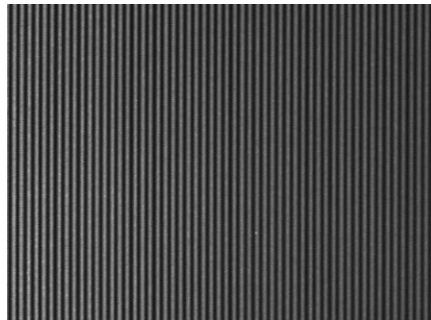
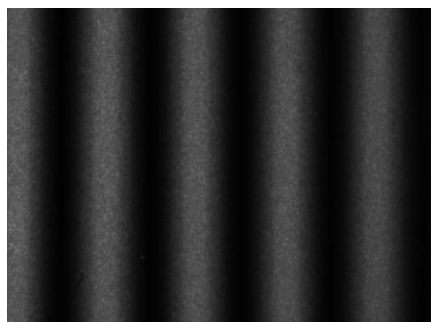
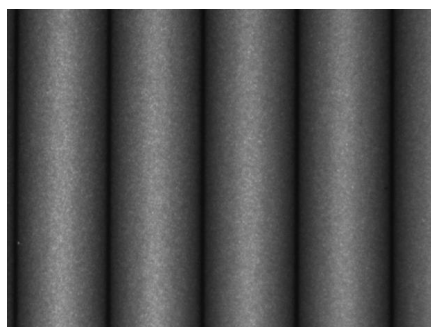

Figure 24 Good Images
Figure 26 Good Images
Figure 27 Bad Images
19. Refer to the Figure 24 and Figure 26 for the sample of the good adjustment images and Figure 25 and Figure 27 for the sample of bad adjustment images.
26. Insert the jig once the left outer barrier open as shown in the Figure 26.